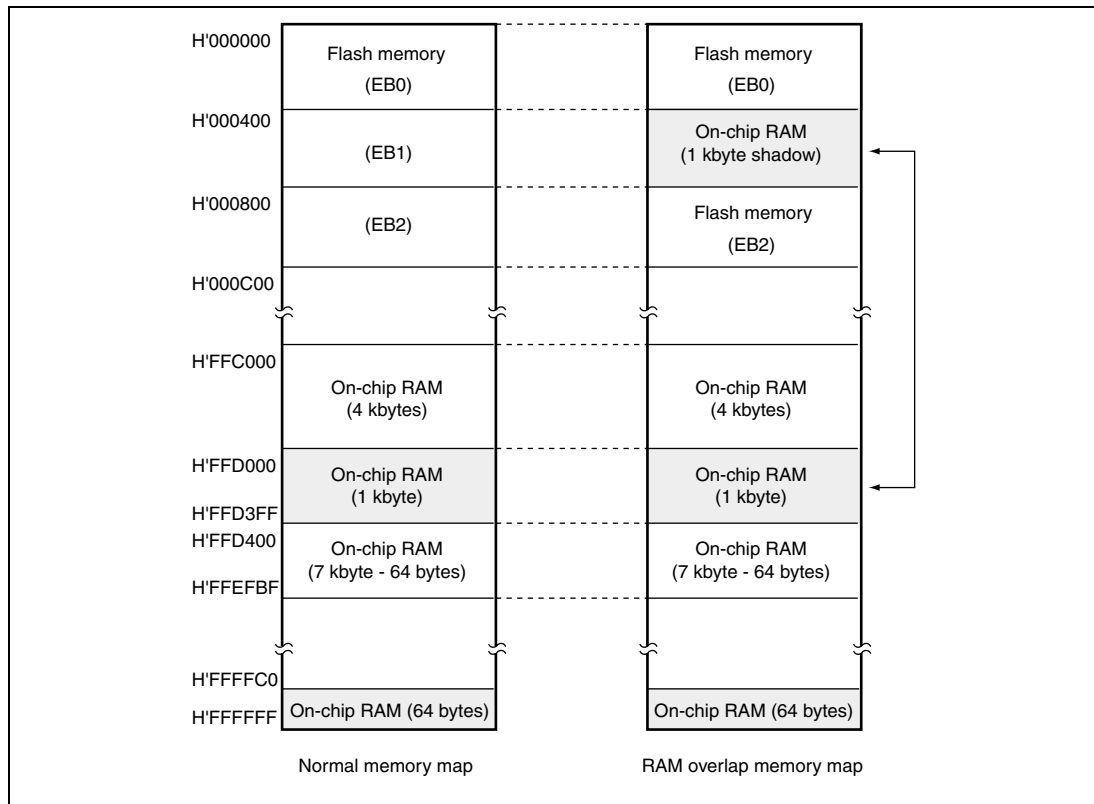

Figure 17.10 Example of RAM Overlap Operation
An example in which flash memory block area EB0 is overlapped is shown in figure 17.10.
3. Prepare the following data storage areas in RAM: a 128-byte programming data area, a 128-byte reprogramming data area, and a 128-byte additional-programming data area. Perform reprogramming data computation and additional programming data computation according to figure 17.10.
5. The time during which the P1 bit is set to 1 is the programming time. Figure 17.10 shows the allowable programming times.